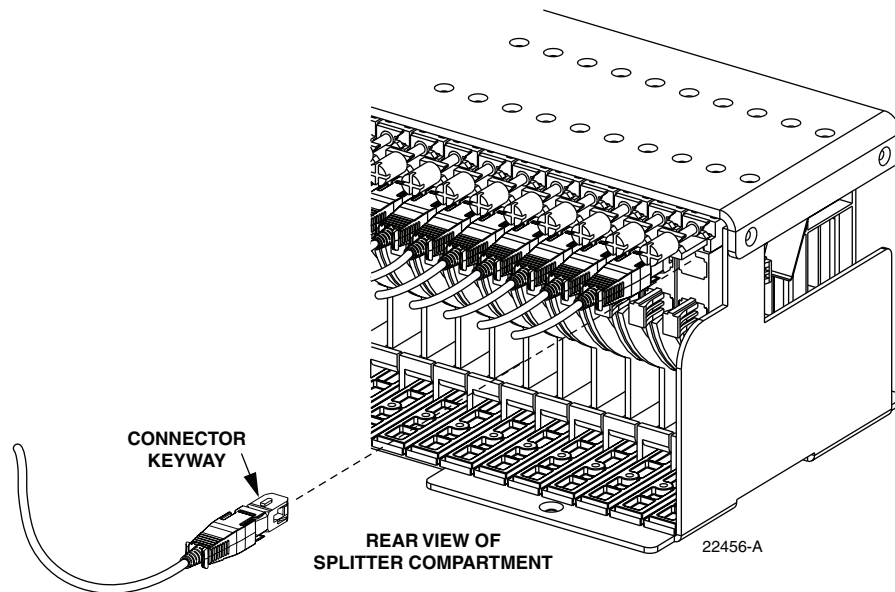

Figure 41. Feeder Cable Connector - Typical Compartment Shown
4. Remove the corresponding feeder cable connector(s) from the rear of the splitter compartment as shown in Figure 41.
3. Remove the feeder cable connector(s) from the rear of the splitter compartment (see Figure 41).